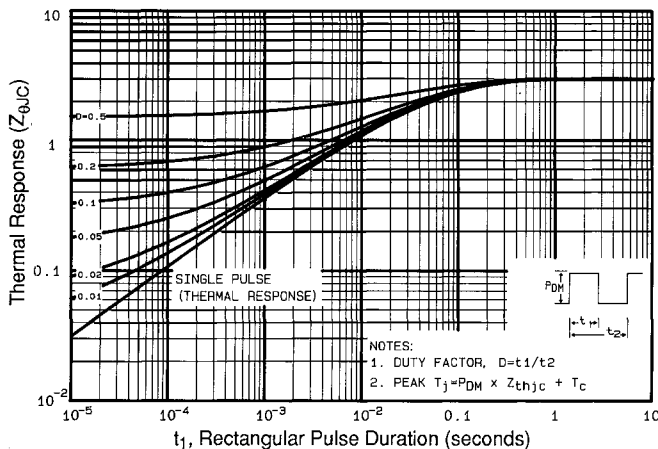

Fig 11. Maximum Effective Transient Thermal Impedance, Junction-to-Case
① Repetitive rating; pulse width limited by max. junction temperature (See Figure 11)
③ $I_{SD} \leq 2.0A$, $di/dt \leq 40A/\mu s$, $V_{DD} \leq V_{(BR)DSS}$, $T_J \leq 150^\circ\text{C}$